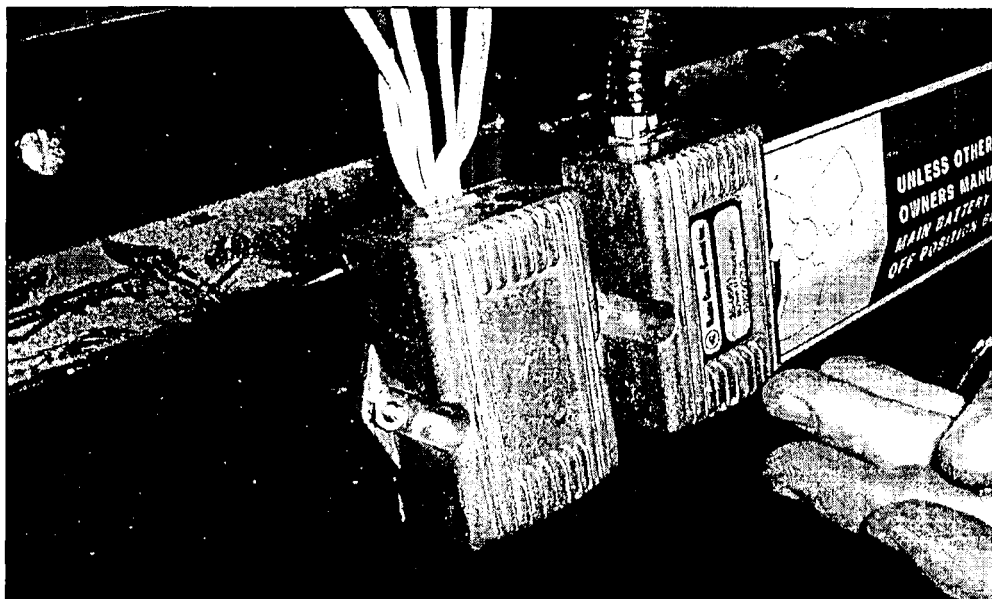

Figure 3.
5. Using the screw (p/n 19-1-609) and nut (p/n 19-11-223) in the Parts list, mount the motor drive module to the access panel with the pan head of the screw orientated to the interior of the panel (Figure 3).
6. Repeat Steps 4. and 5. for the second motor drive module (Figure 3).